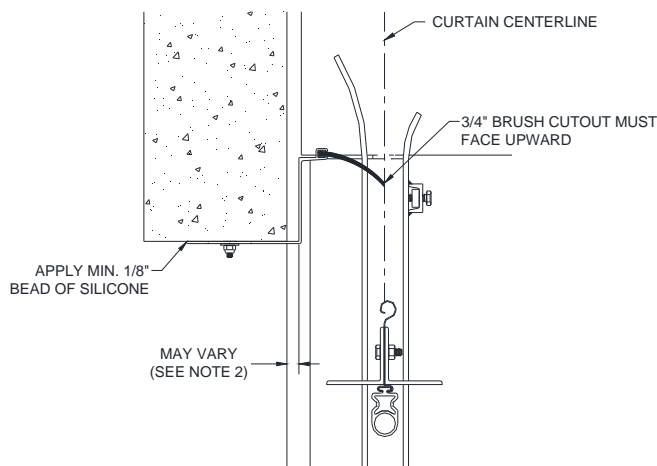

Figure 9.2 - "Z" Shaped Lintel Seal
4. Place the lintel seal at the bottom of the lintel with the vinyl contacting the curtain (in the closed position) with the bristles pushed to about a 45-degree angle. **NOTE:** When installing the brush, notice the bristles are different lengths, face the side with shorter bristles upward toward the coil to allow the vinyl to contact the curtain. (See **Figure 9.2**)
9. Once lintel seal is mounted in place apply silicone to the locations identified above in **Figure 9.2**.